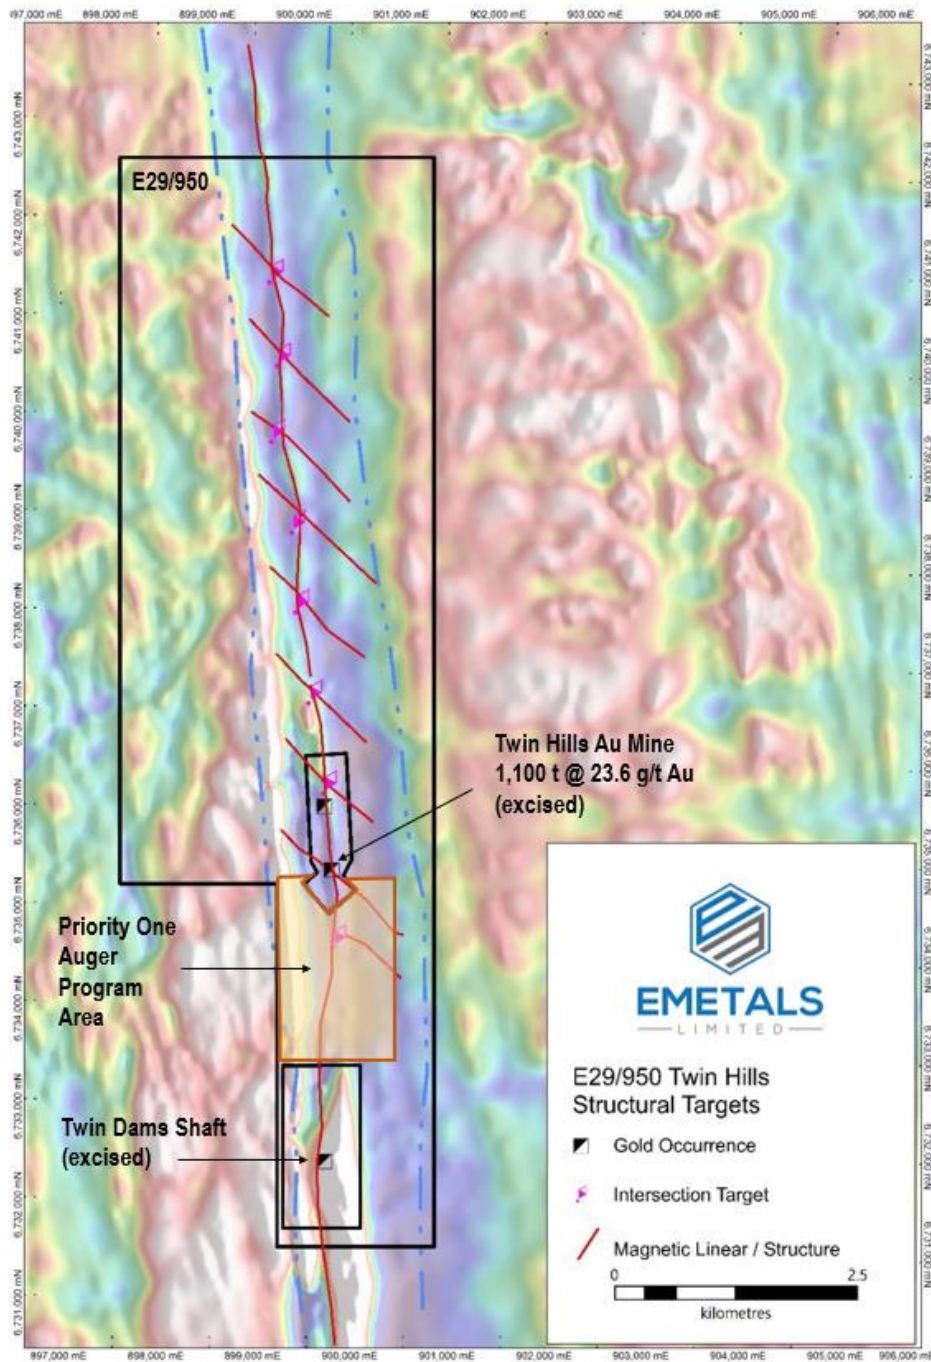

Figure 2 Structural targets identified on E29/950
- Large areas have been inadequately tested by historical exploration with limited RAB drilling and only 2 diamond drill holes completed on the EMT tenure (please refer to Figure 2); and